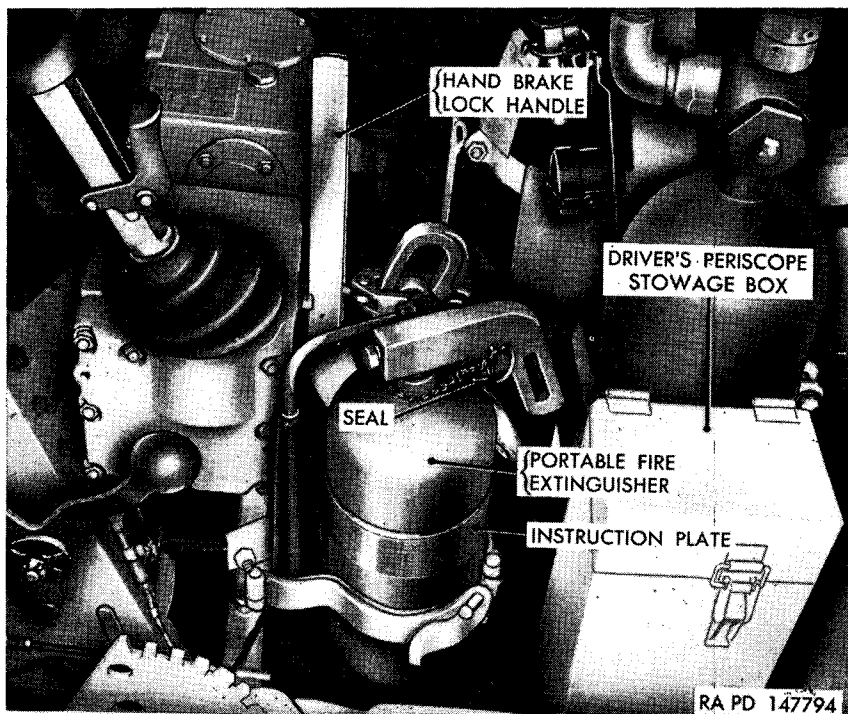

Figure 327. Portable fire extinguisher.
b. PORTABLE SYSTEM. Two portable fire extinguishers are provided for fires which may occur in the fighting compartment. Each is a 5-pound cylinder filled with carbon dioxide (CO₂) and equipped with discharge horn and actuating trigger. One is located in the driver's compartment (fig. 327). The other is mounted on the turret bulge below the periscope storage.
a. REMOVAL (fig. 327). Release cylinder by opening mounting clamp and lift cylinder from mounting bracket.
c. **INSTALLATION** (fig. 327). Install cylinder in mounting bracket and secure by closing mounting clamp.